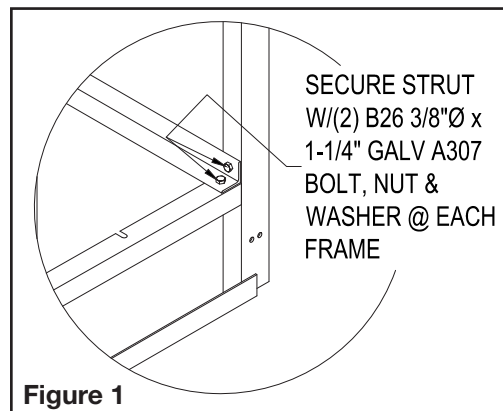

Figure 1
b. Insert 3/8" x 1 1/2" hex bolts through the frames as indicated in Figure 1. Each frame will accommodate two (2) bolts with a flat washer and hex nut for each bolt.
d. Place the horizontal strut on to the bottom rear of each frame. Secure each bolt with a flat washer and hex nut as indicated in Figure 1. Do not fully tighten until all bolts are in place.